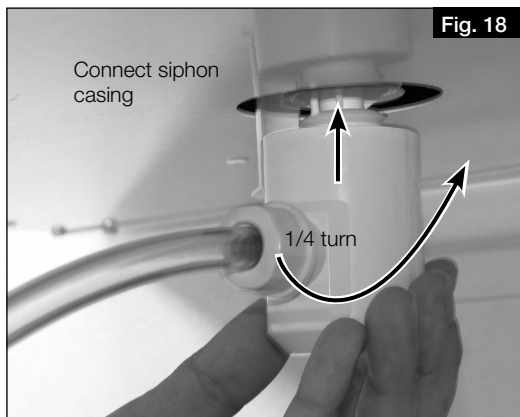

Fig. 18
5. Connect siphon casing and turn a 1/4 turn in the mounting part (see Fig. 18). Ensure that the float ball is loose in the casing!